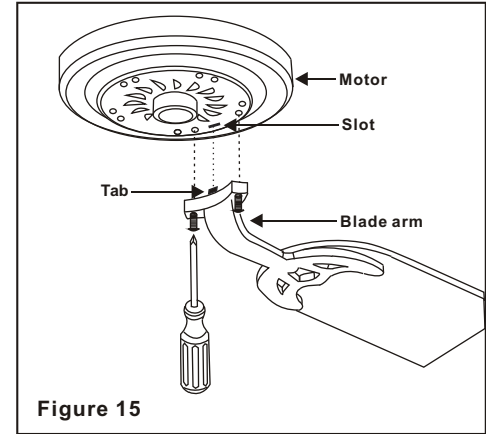

Figure 15
Step 3 Fasten the blade arms to the motor by inserting the tab from the blade arms to the slot in the bottom motor housing, then tighten the two screws and washers already installed in the blade arms (Figure 15).